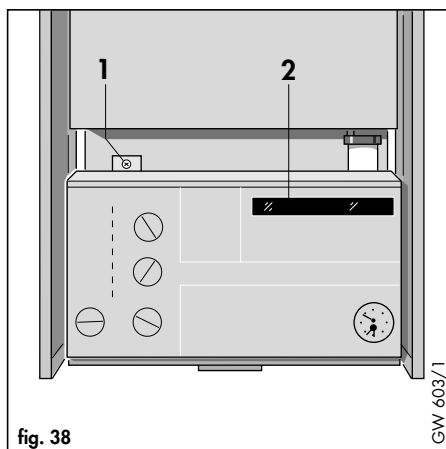
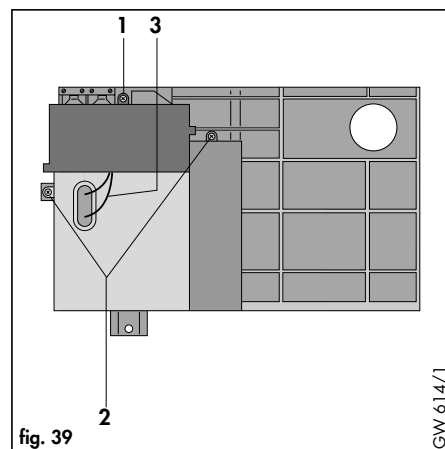
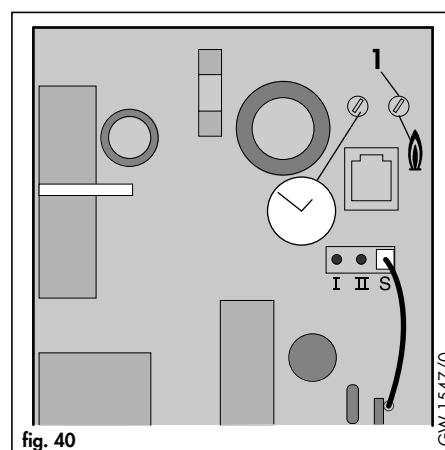

fig. 38
fig. 39
fig. 40
- Remove screw (1, fig. 38) and lower control panel.
- Remove screw (1, fig. 39) and remove terminal box cover to access the range rating potentiometer (1, fig. 40) beneath.
- The central heating output can now be altered by inserting an electrician's screwdriver into the potentiometer (1, fig. 40)
- After setting, refit cover screw (1, fig. 39) and re-secure control panel (1, fig. 38).
Leave the user instructions in the purpose provided pocket on the front of the control panel (2, fig 38).